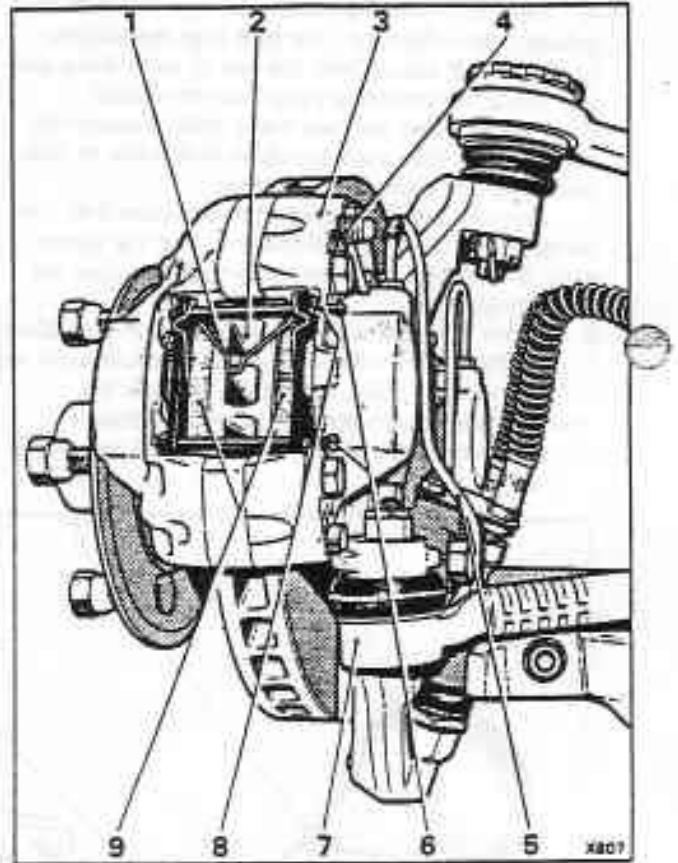

Fig. G16-1 Front wheel front brake caliper
**Front wheel brake pads - To renew (see figs.G16-1 and G16-2)**
holes of the brake pad back plate. Ease the spring into position and secure with the leading pad retaining pin. Fit the pin retaining clip. When fitted the 'ears' of the 'M' spring must rest on the edge of the brake pad backing plate, with the bends at the top of the 'M' figuration butting against the caliper body (see fig. G16-1).
holes of the brake pad back plate. Ease the spring into position and secure with the leading pad retaining pin. Fit the pin retaining clip. When fitted the 'M' spring must rest on the edge of the brake pad backing plate, with the bends at the top of the 'M' figuration butting against the caliper body (see fig. G16-1).
**Front brake caliper - To remove (see figs. G16-1 and G16-2)**